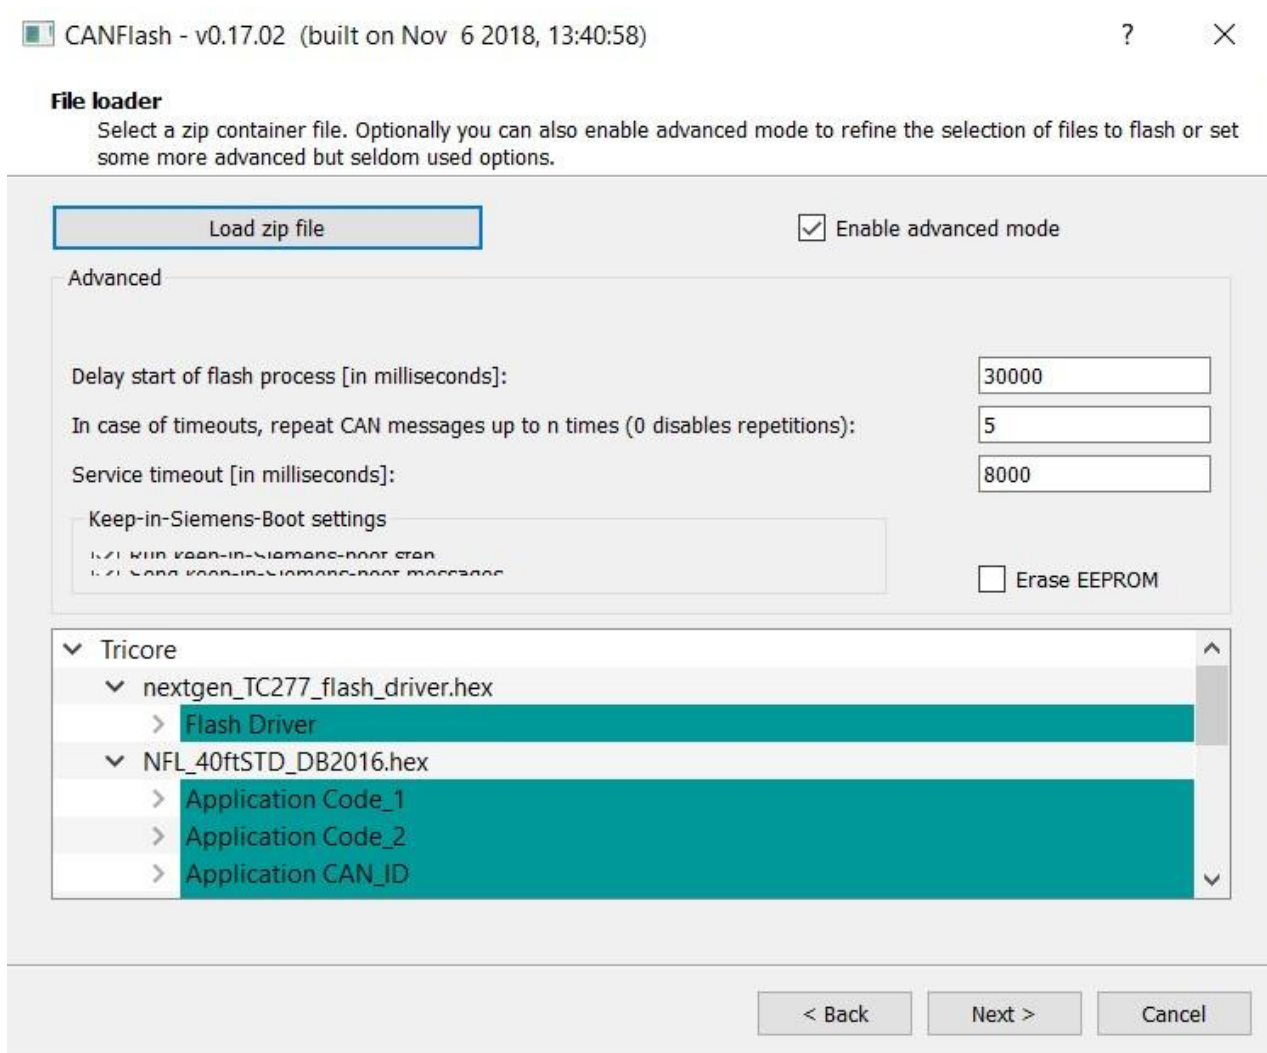

Figure 6: Advanced settings for CANFlash
31. Click the **Enable advanced mode** button. Change the **Delay start of flash process** box to 30000. Change the **repeat CAN messages** box to 5 (see figure 6 below). Click Next when complete.
39. Click the **Enable advanced mode** button. Change the **Delay start of flash process** box to 30000. Change the **repeat CAN messages** box to 5 (see figure 6 above). Click Next when complete.